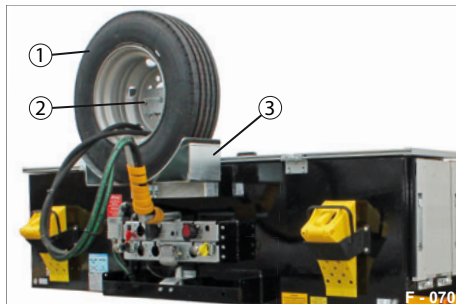
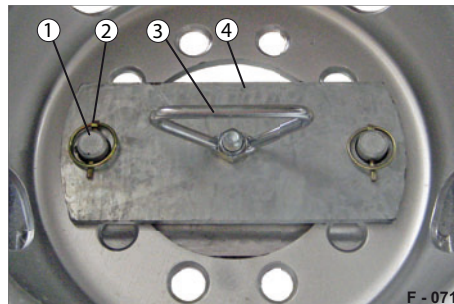

Fig. 95 Spare wheel on the front wall
Fig. 96 Release catches
- ▶ Pull the locking pins Fig. 96/2) out of the studs (Fig. 96/1) on both sides.
- ▶ Unscrew the wing nuts (Fig. 96/3). Hold the spare wheel firmly.
- ▶ Remove the locking plate (Fig. 96/4).
- ▶ Remove the spare wheel from the holder console (Fig. 95/3).
- ▶ Insert the spare wheel into the holder console (Fig. 95/3). The studs (Fig. 96/1) must go through two slots in the rim.
- ▶ Connect the locking plate (Fig. 96/4) to the studs. Hold the spare wheel firmly.
- ▶ Screw on the wing nuts (Fig. 96/3). The locking plate clamps the spare wheel rim down.
- ▶ Connect the locking pins (Fig. 96/2) on both sides. The spare wheel is secured.